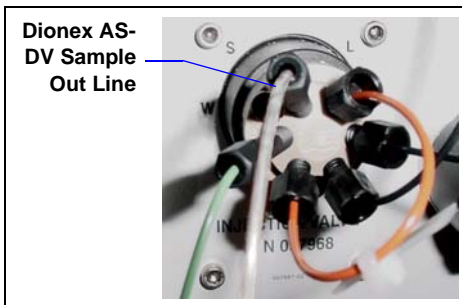

Figure B-3. IC System Injection Valve
4. Connect the Dionex AS-DV sample out line to the sample in port on the IC system injection valve (see Figure B-3).